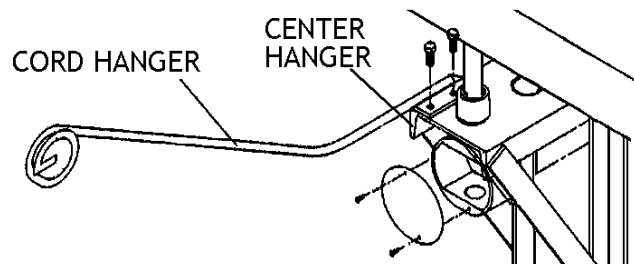

Figure 23 - Cord Hanger Placement on Machine
- 47 Bolt cord hanger to top of center hanger with 5/16" x 1" bolts. Tighten using 1/2" wrench. **Figure 23.**